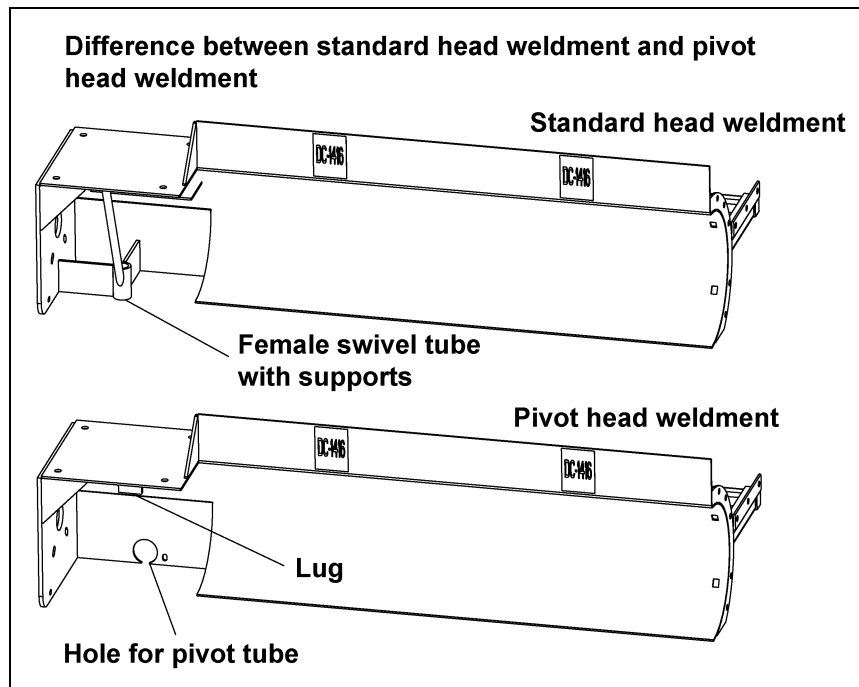

Figure 11A
The following Figure 11A is of a 12" pivot sweep head end weldment and a 12" standard sweep head end weldment. There are very few differences between the two. The standard head weldment has the female pivot tube welded to the drive end of the unit. Two (2) plate braces and one pipe brace support this tube. The pivot head weldment has a lug welded to the underside of the motor mount plate. This lug is for attachment of the sweep pivot rod assembly. There is a large hole in the rear plate for the center support tube assembly to pass through. Next to the large hole is a slot that the center support mounts to.